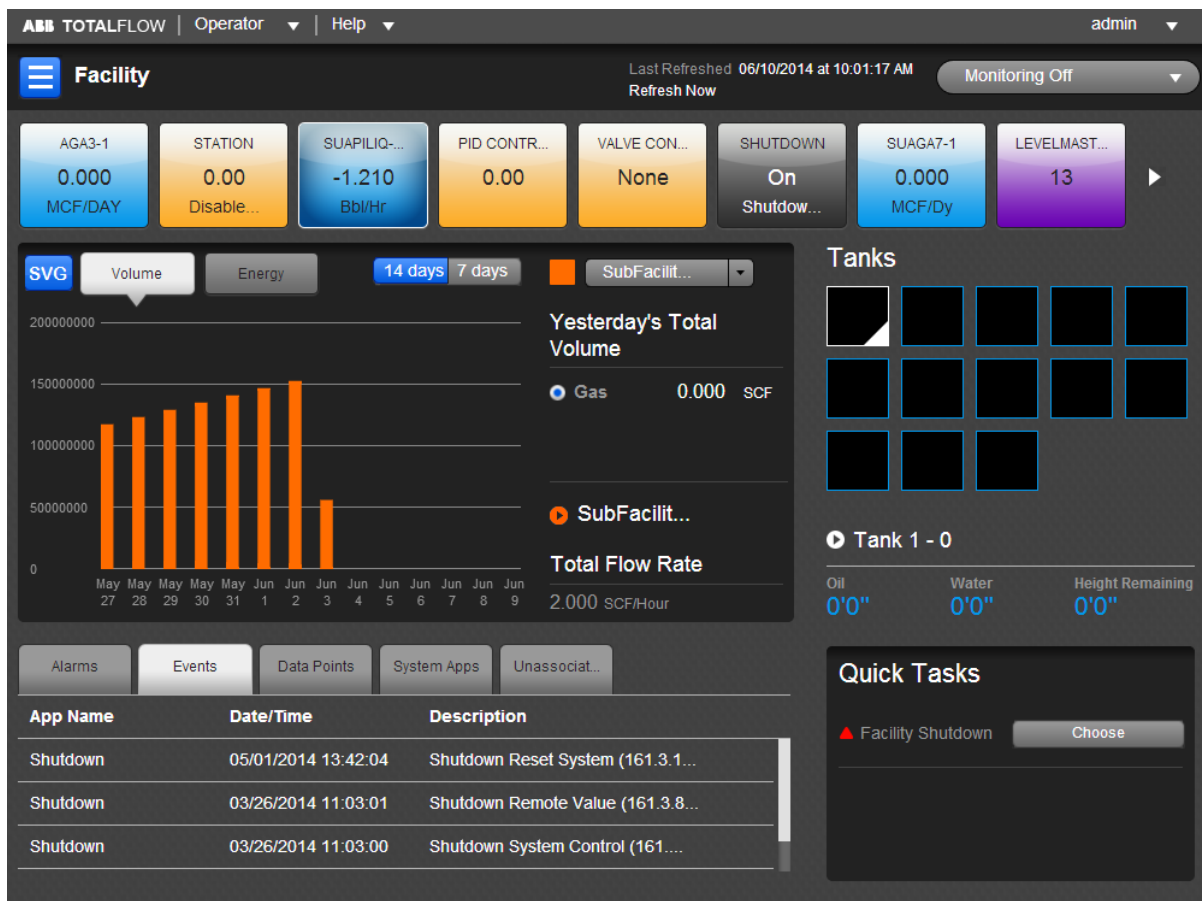

Figure 18: Facility Dashboard
3. Verify default **Facility** dashboard home screen displays (Figure 18).